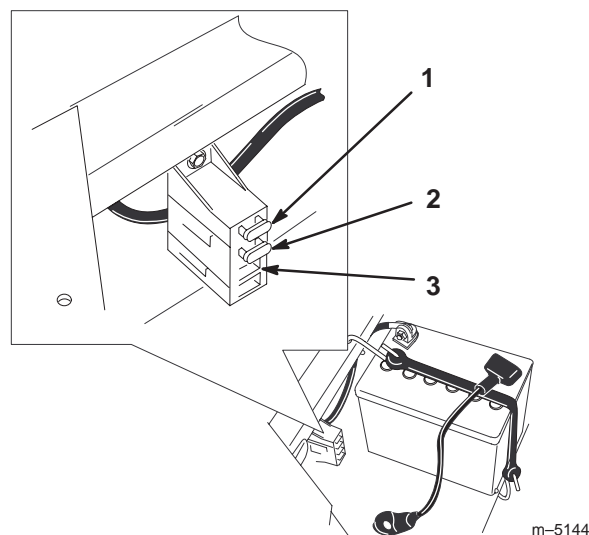

Figure 47
1. Raise the seat to gain access to the fuse holder (Fig. 47).
2. To replace a fuse, pull out on the fuse to remove it (Fig. 47).